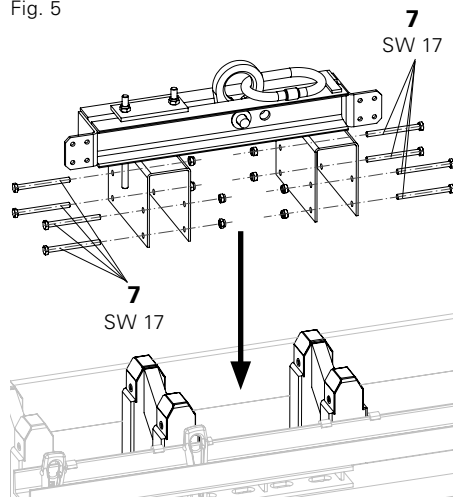

Fig. 6
6. Screw on the eight Nuts M10 and secure with a torque wrench (50 Nm). (Fig. 6)